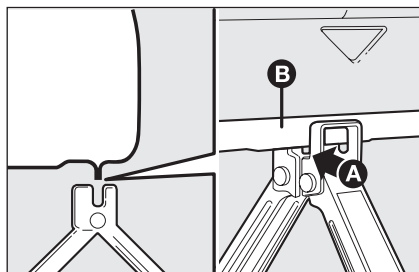

fig. 10
- ☐ Expand the jack until groove **A**-fig. 10 on the jack correctly matches the lower profile **B** on the side frame.